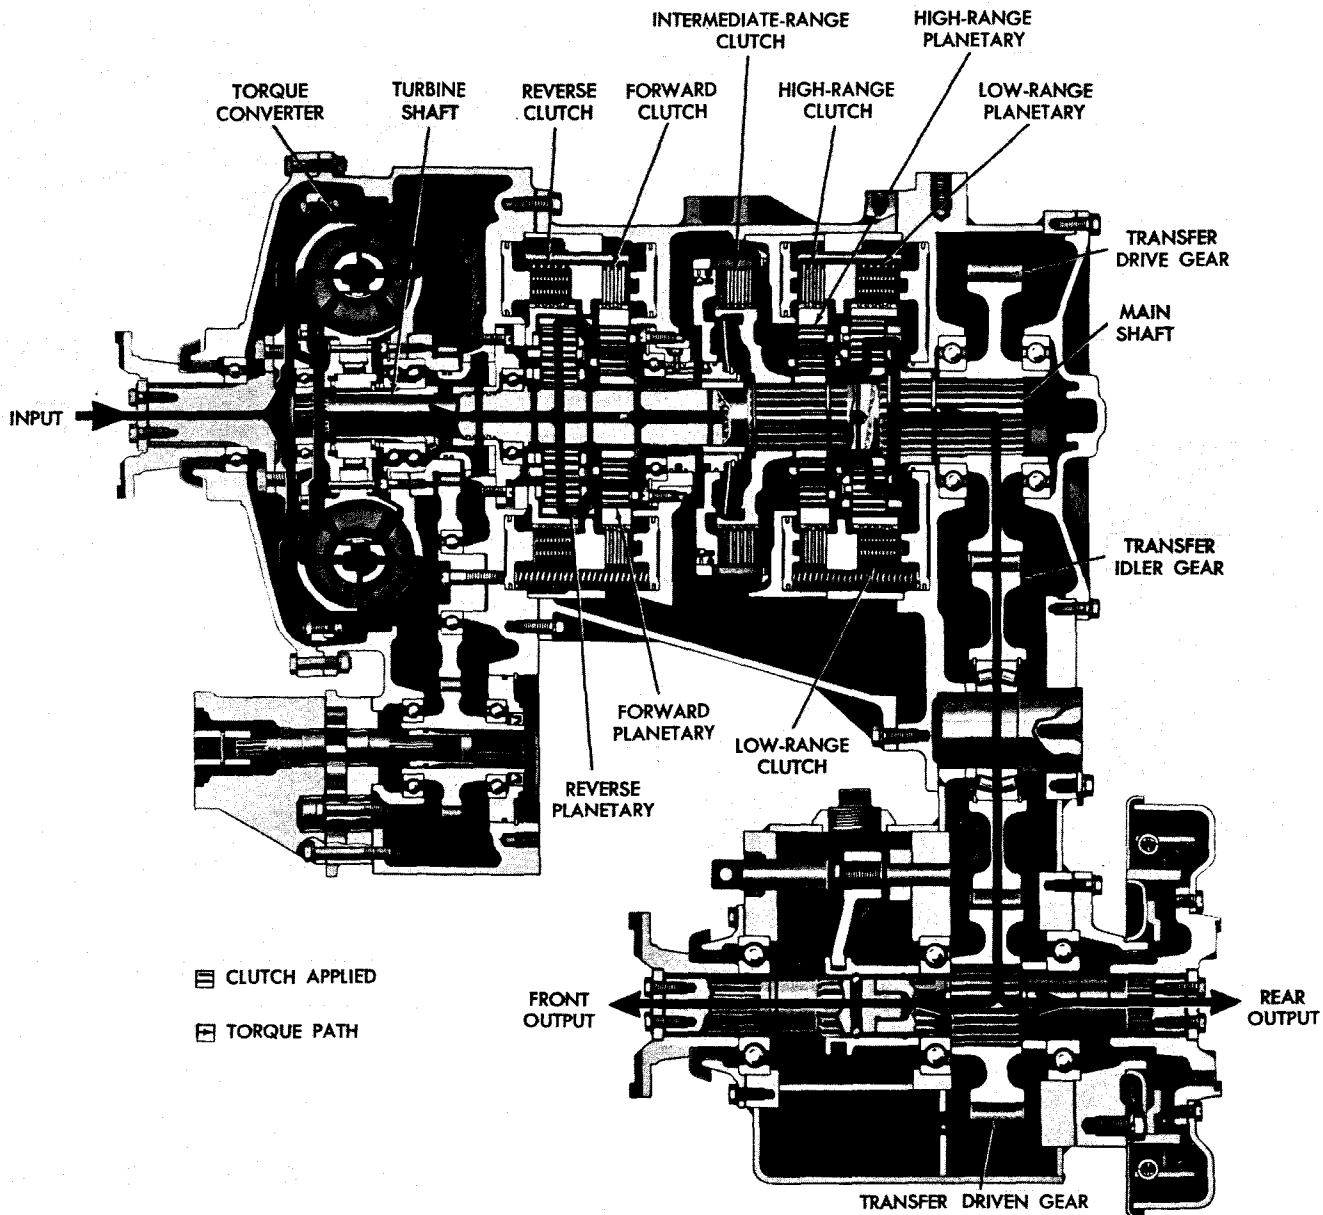

Fig. II-5. Reverse, low range—torque path (CRT 3531-1 or CRT 3630-1)
27. TORQUE PATH – REVERSE, LOW RANGE (fig. II-5)